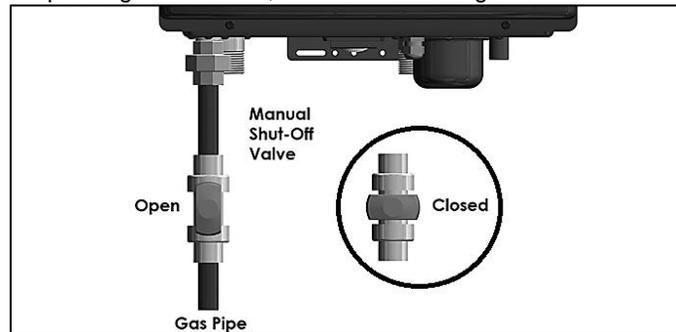

Figure 16 – Gas Line with Shut-Off Valve Detail
4. A manual gas shut-off valve should be installed in the gas supply line close to the boiler. See Figure 16 for detail.